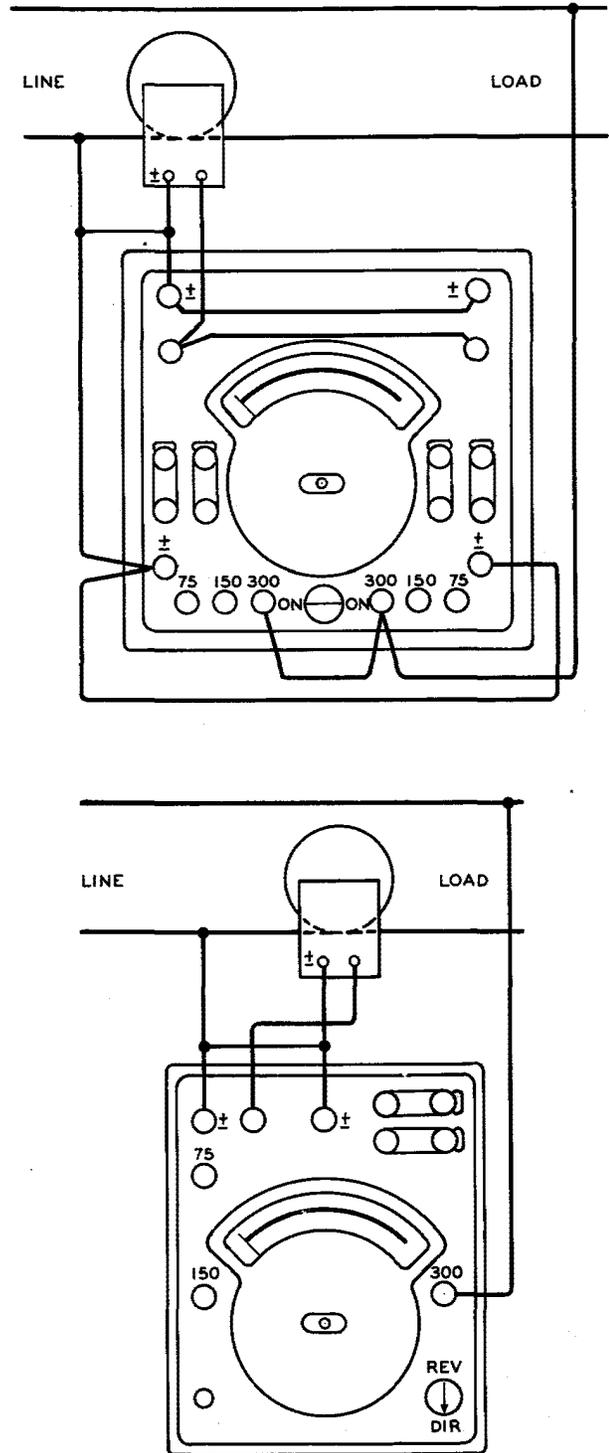

Fig. 5 – Typical Connections for Single-Phase Load Using a Polyphase or a Single-Phase Wattmeter
2.09 *Wattmeters* should be connected as shown in Fig. 5, 6, 7, and 8, unless otherwise specified. The voltage coil leads may be connected on either side of the current transformer and it will not be necessary to correct for meter loss except for small machines such as ringing machines. Voltage posts on portable wattmeters are marked with the voltage which, in the absence of other information, should not be exceeded. Different current capacities are usually obtained by links. Information on operation of link and the factor by which instrument reading must be multiplied to give actual wattage vary with different instruments and is given on instruction furnished with the wattmeter. If a current transformer is used, its ratio must also be considered as covered below.